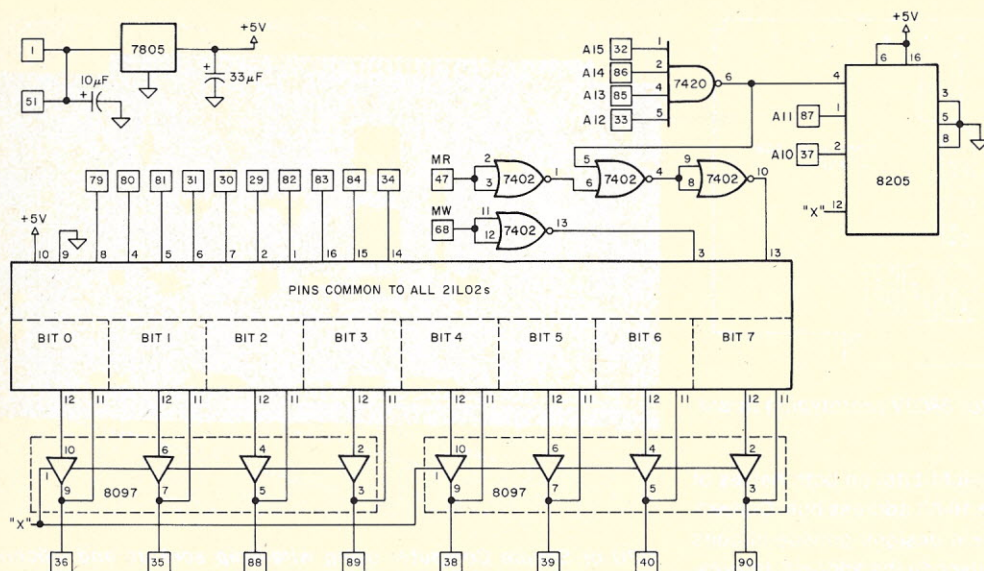

Fig. 8. The schematic of a memory board to operate at the top 1K position.
**Memory boards.** 1K memory: In my system I hand-wired this too. The schematic is shown in Fig. 8. Although I placed it on a separate prototyping board, you might be able to squeeze it onto the CPU board. The eight memory chips can be obtained